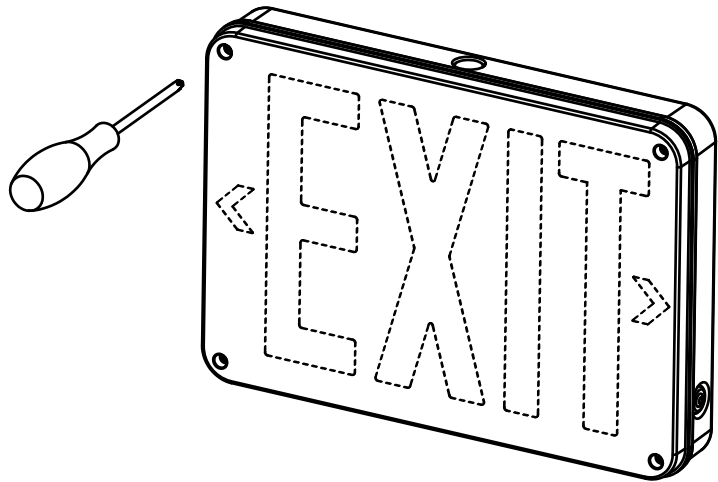

Fig 1
1. Open front cover using screwdriver (see Fig 1).